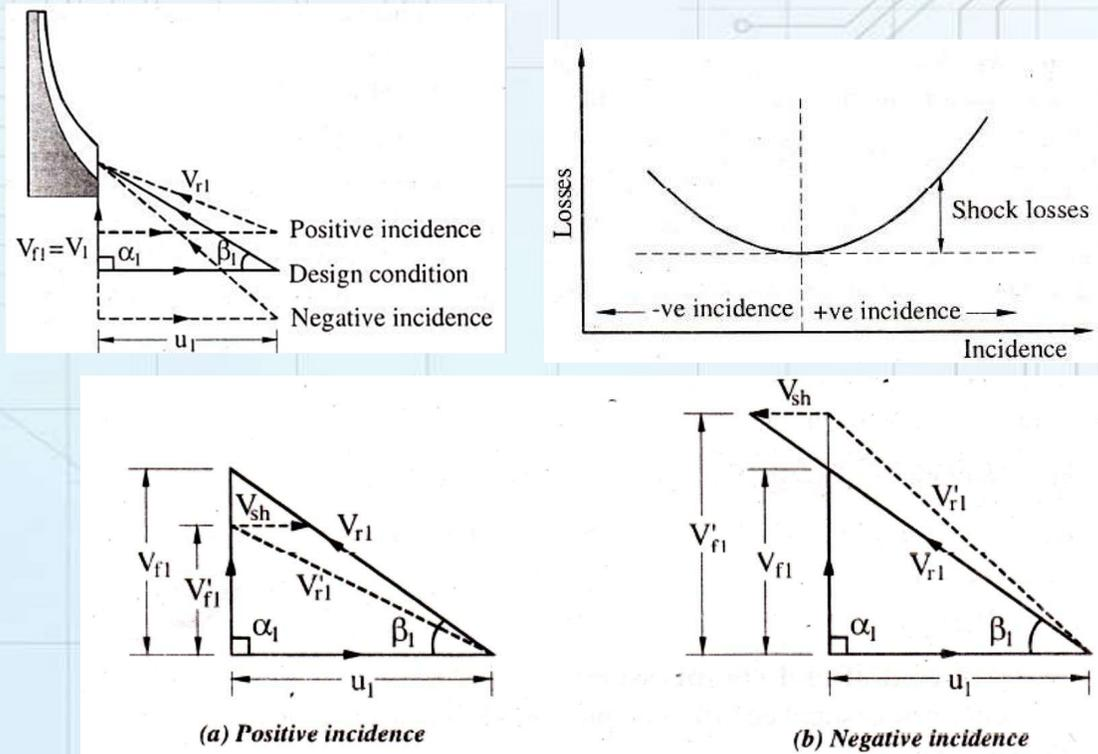

Fig. 7.11 – Effect of incidence on velocity diagrams and variation of shock losses
- ▶ During the off design conditions the flow at the entry of the impeller and diffuser blades approaches them with some degree of incidence as shown in Fig. 7.11.